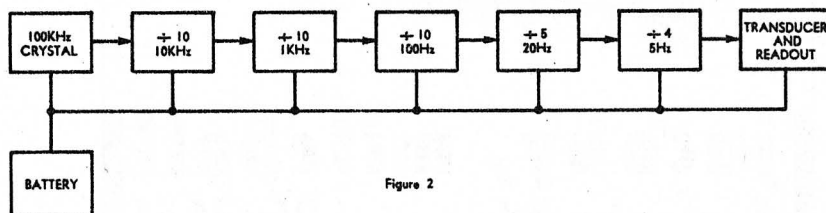

Figure 2
If we make the reasonable assumption that the crystal oscillator, each of the five divider stages, and the movement, all consumed an average of 250 micro-amps each, the total current drain would be 1.75 milliamps. This is becoming a proposition for use with ordinary dry cells. Under these conditions, it would be reasonable to expect several months service from one set of dry cells. The block diagram of this suggested arrangement is shown in figure 2.
*This arrangement is similar to that of figure 2 but with the important difference that it uses flip-flops, in the divider chain.*